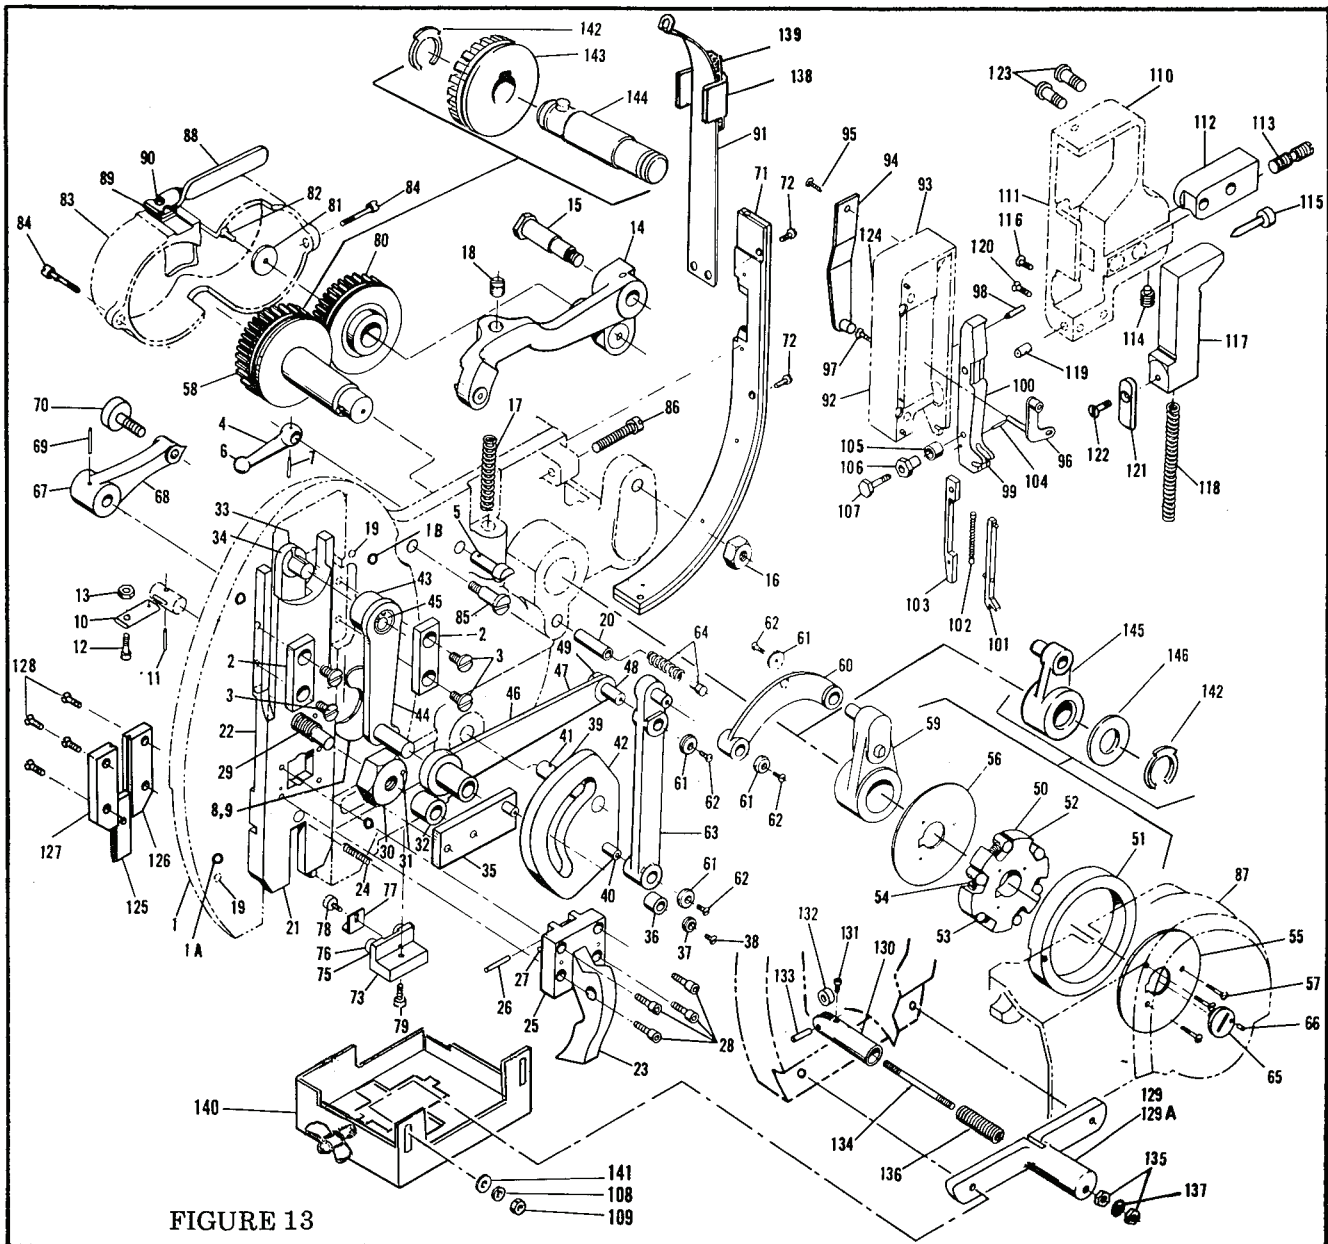

FIGURE 13
If the shoe support is insufficient, loosen lock screw in lock nut and back off the adjusting nuts (Index 135, figure 13). This permits the plunger roller to push the shoe further to the front of the stitcher. Make certain that the shoe does not come forward so far that it strikes the mandrel. This condition can damage the shoe and/or mandrel. If the corners of the shoe over which the stitch rides are square and sharp, round off slightly with fine emery cloth.
The adjustable drive bar link (figure 10 or Index 43, figure 13) controls the point at which the driver will stop at the lowest part of its travel. This makes it possible to bury the stitch in spongy material or elevate it above the work surface. At the lowest part of its stroke, the driver end should be approximately .010" below the ends of the formers.
1. Remove the face plate assembly (Index 1, figure 13).
2. Remove the former slide assembly (Index 21, figure 13) from the face plate.
3. Remove the driver bar and drive bar link (Index 43, 44, figure 13) by sliding from the face plate.
The cutter block (Index 110, figure 13) contains the cut-off die, flat knife and the parts required to equalize the stitch length. The adjusting slide (Index 112, figure 13 top) is directly connected to the wire draw linkage in back of the stitcher head. The cutter block is adjusted on this slide to move the cut-off position in relation to the center of the stitch (this adjustment does not alter the amount of wire feed). The length of the shorter leg is increased by decreasing the length of the longer leg. Any adjustment made should therefore be one-half of the original stitch leg variation. Check for im-
1. Make certain that the index lever lock screw (Index 70, figure 13) is tight.
2. Loosen the set screw (Index 114, figure 13 top) not more than one-eighth turn.
3. To increase the length of a short right leg, turn the adjusting screw (Index 113, figure 13) clockwise. For a short left leg turn the adjusting screw counterclockwise.
1. Remove the front block assembly (Index 92, figure 13) and lower the table.
4. To increase the tension on the feed lever assembly (Index 14, figure 13) turn the set screw (Index 18, figure 13) clockwise.
The function of the wire feed clutch assembly (Index 50, figure 13) is to feed the same amount of wire for each stitch. This assembly is a simple over running clutch consisting of an outer ring and an internal spider which contains six rollers (each roller is backed by a light compression spring). When the outer ring is turned clockwise (facing this part from the back of the stitcher) the rollers are wedged between the spider and outer ring, causing the feed gear to turn. When turned counterclockwise, the outer ring moves independent of the spider and the feed gear remains stationary. The most common causes of slippage are (1) too much oil and/or dirt, (2) a broken spring or outer ring or (3) a worn spider.
10. Oil parts lightly and reassemble. The wire feed clutch brake assembly (Index 64, figure 13) prevents overfeed. Keep this part clean and free of oil.
The Function of this clutch is identical to that in section Q. However, if this clutch malfunctions, it must be replaced as an assembly with the feed clutch arm assembly. (Index 145, figure 13).